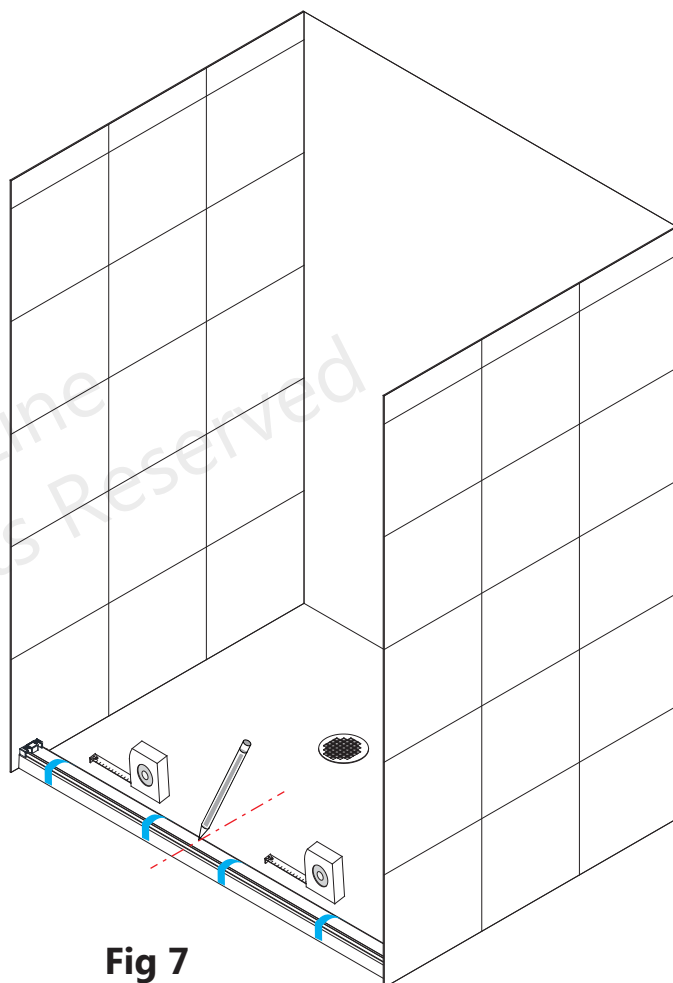

Fig 7
7. Measure across the width of the threshold to locate and mark the center. The **Center Guide Block (#10)** must be installed in the center of the threshold. **(Fig 7)**